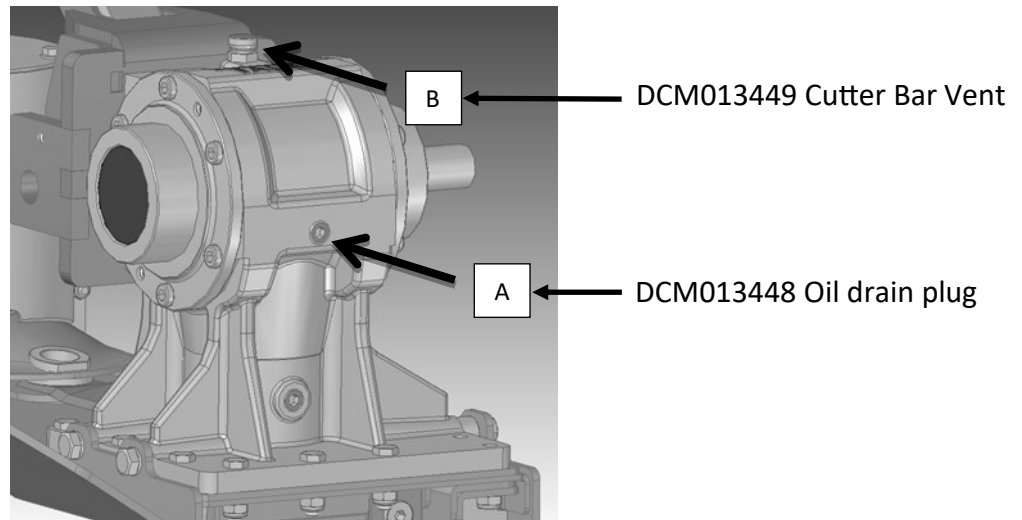

Fig. 21. Gearbox oil inspection: A – Oil drain plug, B – cutter bar vent
Gearbox oil level should be checked with the oil dipstick placed in the oil control-filler-drain plug (A) , after opening it Fig. 21.
- Open the oil filler, drain and control plug (A) Fig. 21.
- Check the oil level and close the control plug (A).